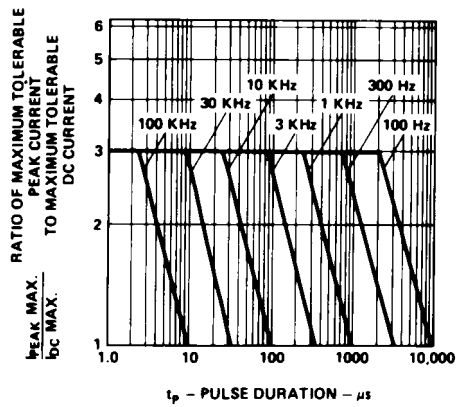

Figure 5. Maximum Tolerable Peak Current vs. Pulse Duration. ($I_{DC MAX}$ as per MAX Ratings).
- See Figure 5 to establish pulsed operating conditions.